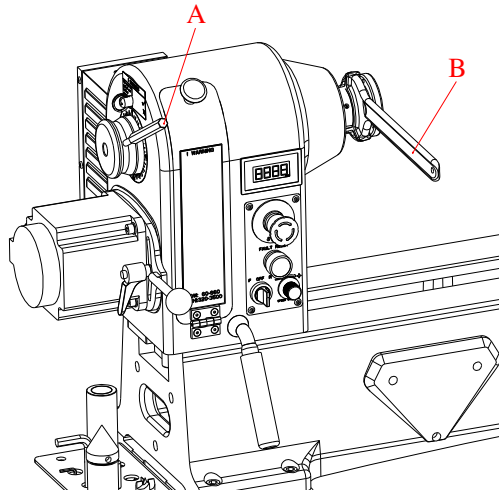

Fig .16
- 4, Insert lock rod A (Fig.16) into hand wheel hole. Hold the rod and tighten the faceplate with faceplate wrench.